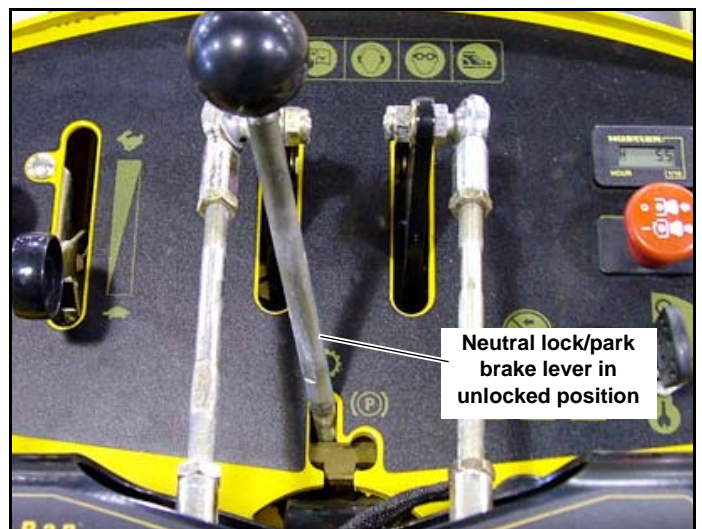

Fig. 3-5
3. With the neutral lock/park brake lever in the unlocked position (Fig. 3-5) and/or the deck clutch switch engaged (up position), slowly release both operator presence control levers. **The engine should stop within a few seconds.**
both of the operator presence control levers when the neutral lock lever is unlocked (Fig. 3-5) or the deck clutch switch is engaged (up position), the engine will stop.
After starting engine, place the neutral lock lever in the unlocked position (Fig. 3-5) and steer as follows: